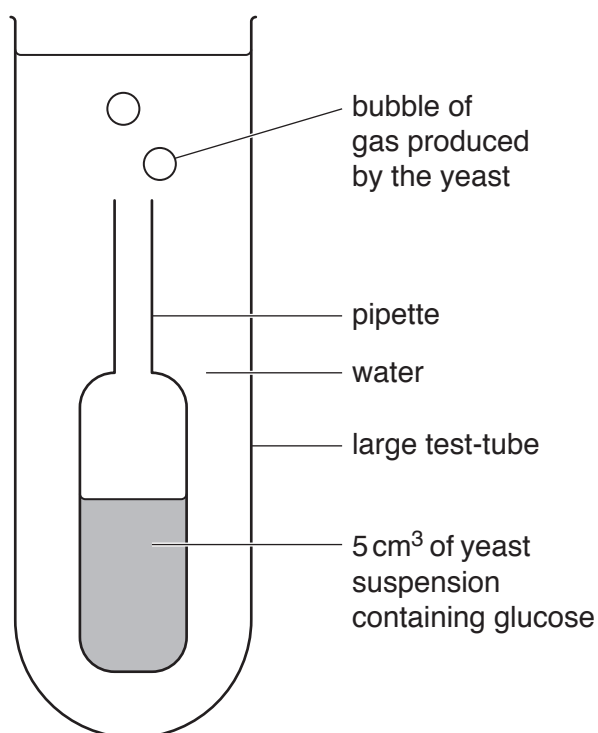

Fig. 1.1
Step 1 The student was provided with a yeast suspension which also contained glucose. Two identical sets of equipment were set up as shown in Fig. 1.1.
Step 2 One set of the equipment shown in Fig. 1.1 was placed into a **warm** water-bath and the starting temperature of the water-bath was recorded as 50 °C. The other set was placed into a **cool** water-bath which had a starting temperature of 25 °C. The volume of water in each water-bath was the same.